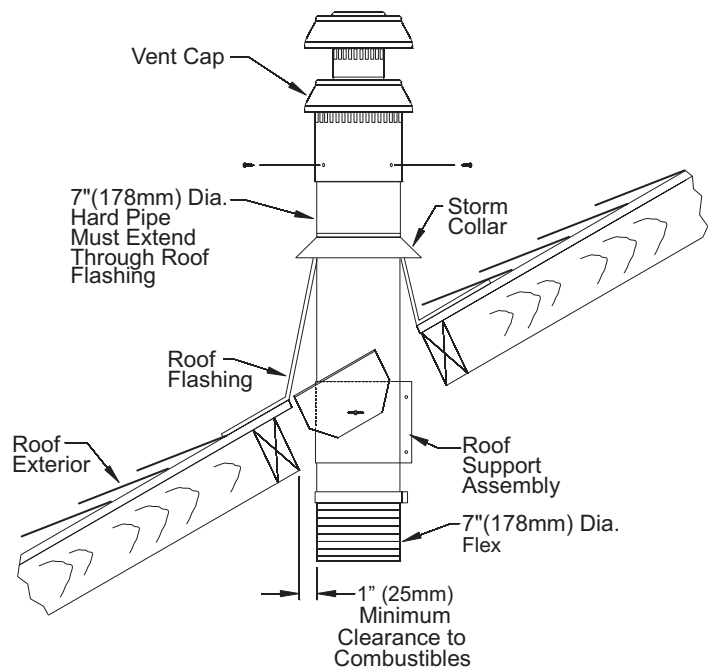

Figure 27
19. Once the lower connections are made and the flex pipe is secured with support bands as required (3 feet minimum between supports) then the roof flashing can be installed. **See Figure 27.**